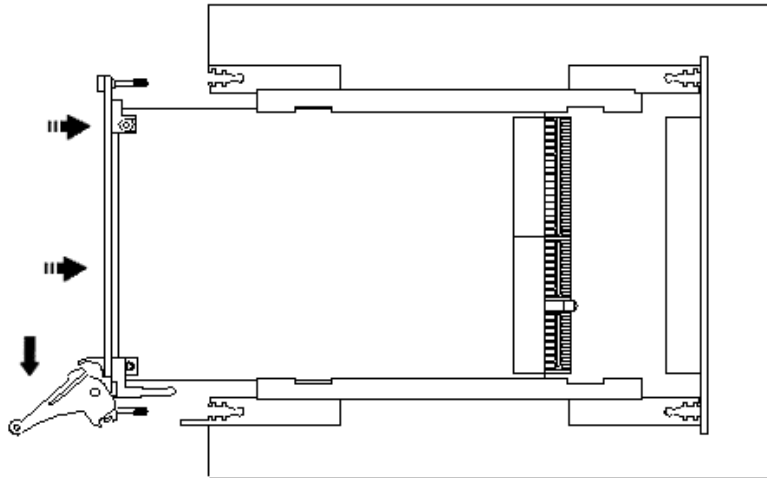

Figure 3-2: Ejector handles position during module insertion
5. Carefully slide the PXI board to the rear of the chassis, make sure that the ejector handles are pushed out (as shown in Figure 3-2).